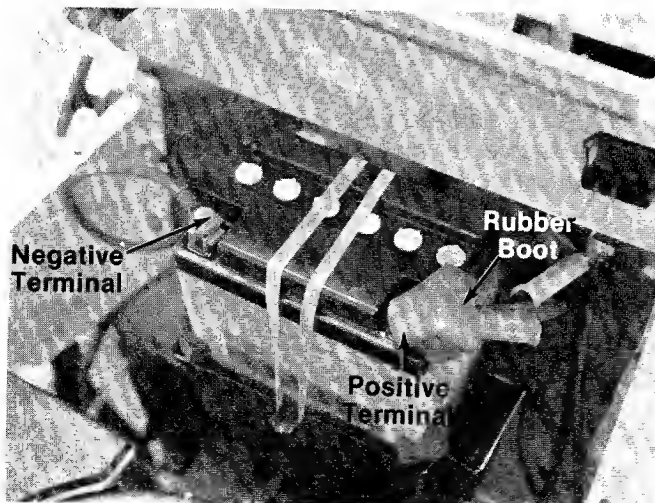

FIGURE 13.
15. Slide the rubber boot over the positive terminal. See figure 13.